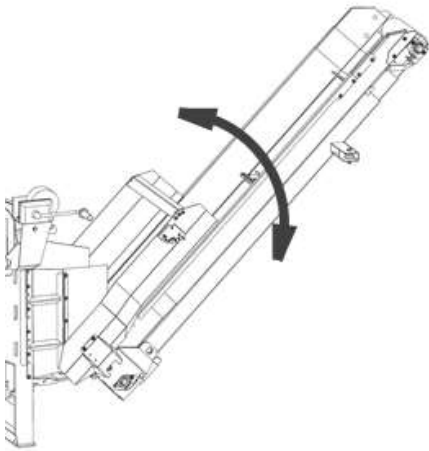

Figure 13
- When adjusting the offset of the conveyor belt, use an appropriate offset angle according to the length of firewood (Figure 13).